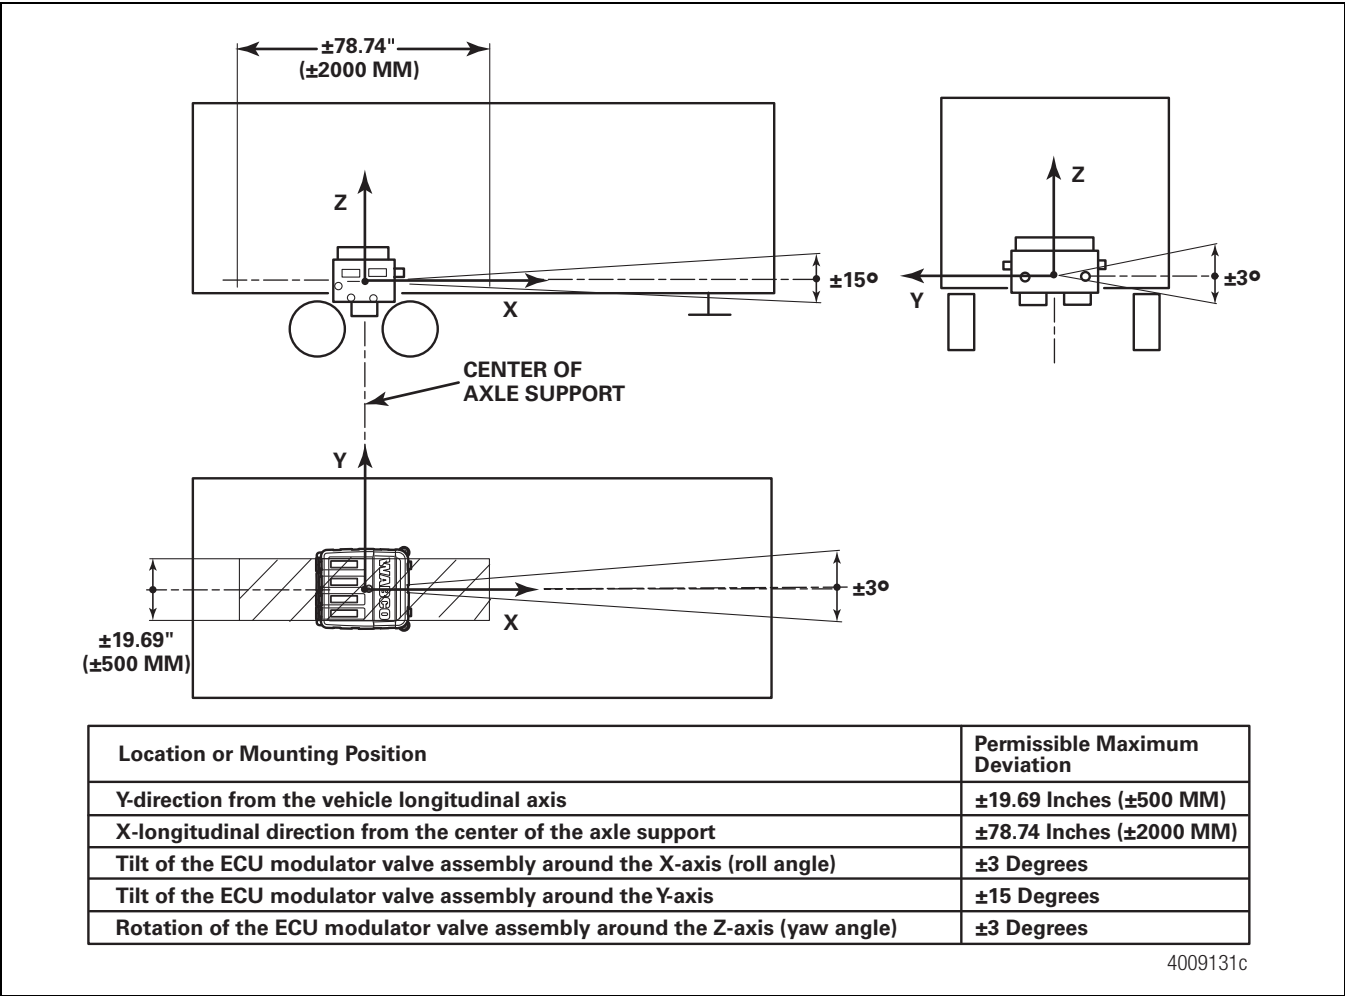

Figure 6
The ECU modulator valve assembly contains a lateral accelerometer that provides data for stability control. For optimum lateral accelerometer function, **the ECU must be mounted level in the center of the width of the trailer, midway between the axle spacing.** Figure 6.
- The ECU assembly must be mounted level and must be mounted facing either the front or the rear of the trailer. Figure 6.
- Mount the ECU modulator valve assembly in the center of the air reservoir, midway between the axle spacing. Figure 6.